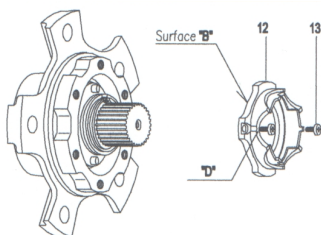

Fig. 2
CLUTCH ASSEMBLY INSTALLATION (Fig. 2)
9. Install body assembly (15) taking care to coincide internal splines with shaft splines. Push it all the way into wheel hub.
10. Be sure that cam follower pins "C" (or legs) fit into the clutch ass'y (12) deepest portion "D" Fig. 2. This will make assembly easier, since in this position, free wheel hub is in 4X2 (free) and no effort will be needed to fit fixing nuts.